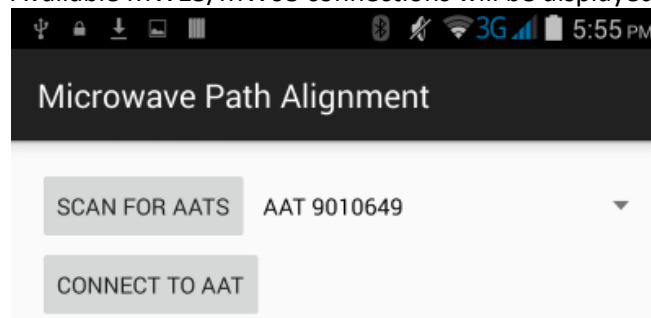

Figure 14
- 8) Using the drop-down menu, highlight the MW15/MW08 connection matching the serial number of the MW15/MW08 being used and click “CONNECT TO AAT.” See Figure 14
- 7) Locate the MW15/MW08 connection matching the serial number of the MW15/MW08 to be used and click “CONNECT TO AAT.” See Figure 14